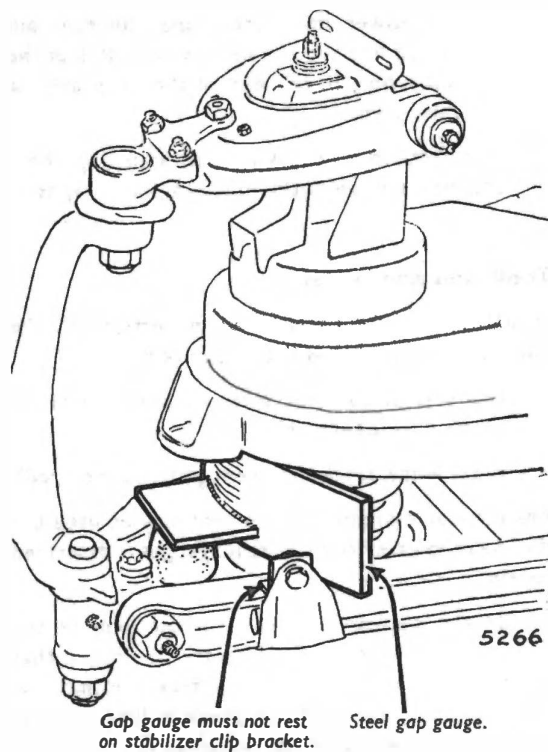
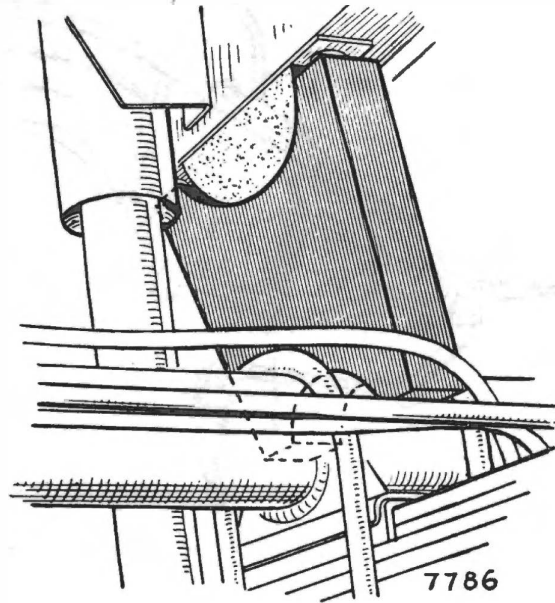

Fig. 2. Front suspension loaded down onto steel gap gauge
Fig. 3. Rear gap gauge in position, ensure that the rear bottom corner is clear of the hydraulic pressure pipes
5. The car is loaded on to four gap gauges by placing weights at the front of the car. The amount required is approximately 300 lb. (136 kg.) evenly distributed on a platform, comprising of a wooden plank supported by two suitably cranked steel bars  $\frac{7}{8}$  in. (22 mm.) square inserted into the front jacking sockets. At the front, steel gap gauges are used, see Fig. 2 or 28. At the rear, hardwood gap gauges are used; these are shaped to clear the hydraulic pressure pipes, the bump rubbers and fit round the axle casing, see Fig. 3. Normally the rear end of the car is lifted by hand to enable the rear